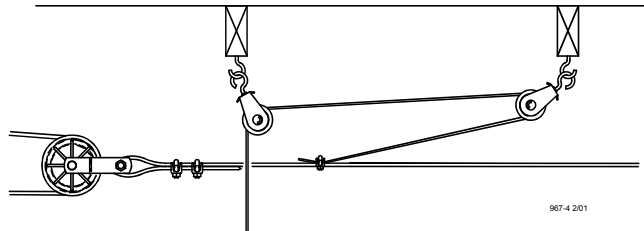

**Figure 18. Pulley Installation**
- After securing the Ceiling Hook to the truss, slide the hook of a Swivel Pulley into the slot, as shown in **Figure 18**.